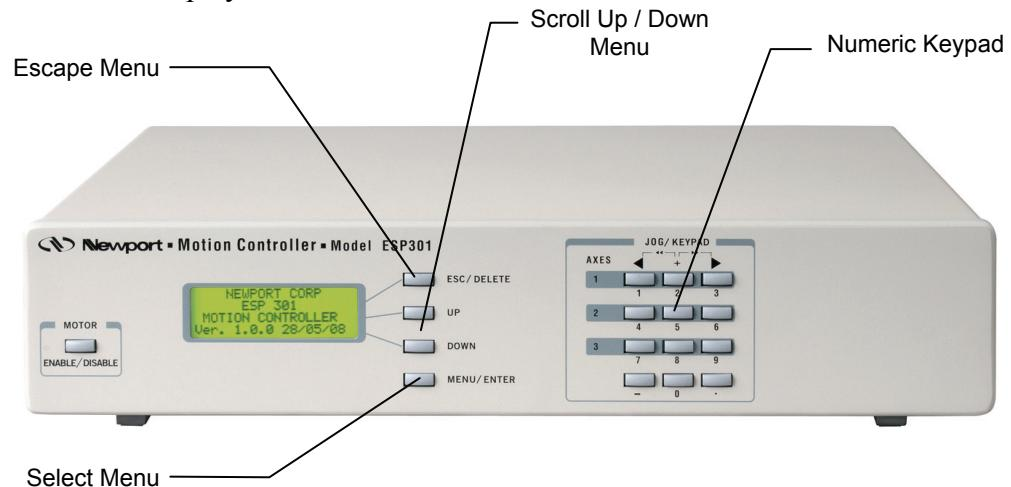

Figure 2.1: Menu Section
**Figure 2.1** shows the menu section of the front panel. The menu listing can be accessed by pressing the *Menu* key to the bottom-right of the display.